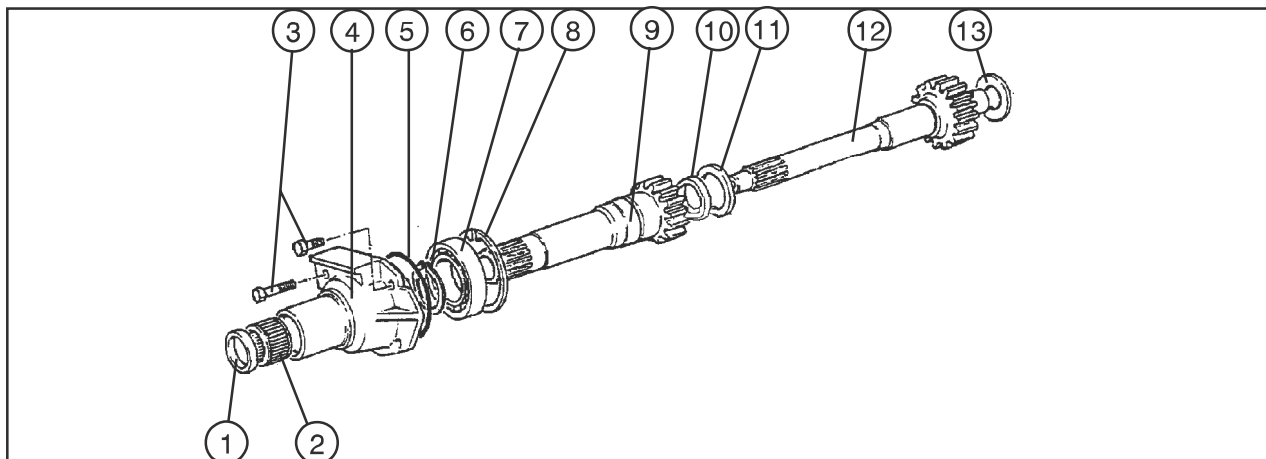

Fig. 1
- Fig. 1: Input housing "A": with 2 input shafts
- Fig. 1: Input housing "B": with 1 input shaft
- 6 - Bearing lock-ring (snap ring) (7) over the PTO input shaft (9)
- 8 - Bearing lock-ring (snap ring) (7) inside the input housing (front flange)